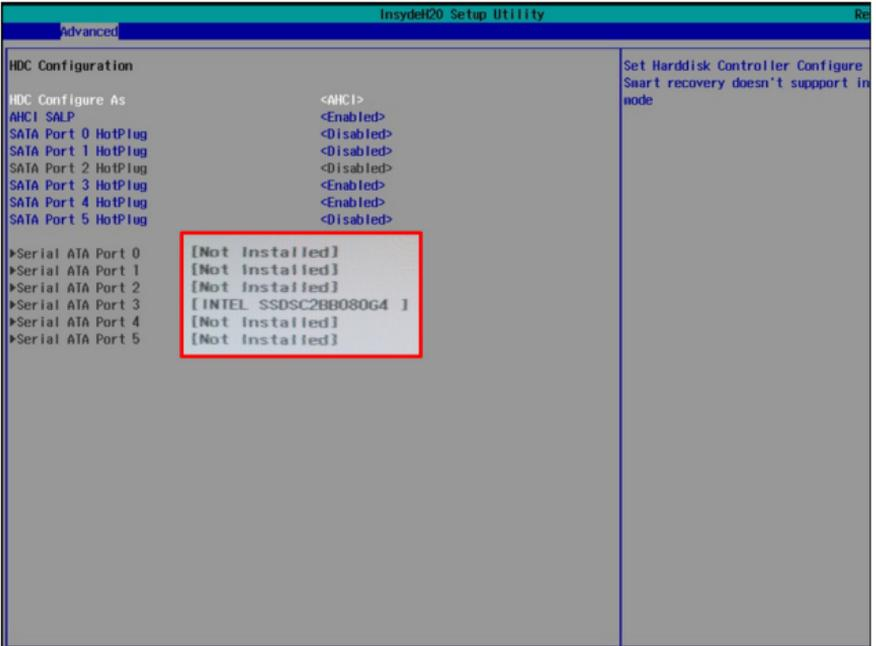

Figure 41
5.3 Verify the information [brand and model] displayed for **Serial ATA Port 3** as shown in Figure 41.